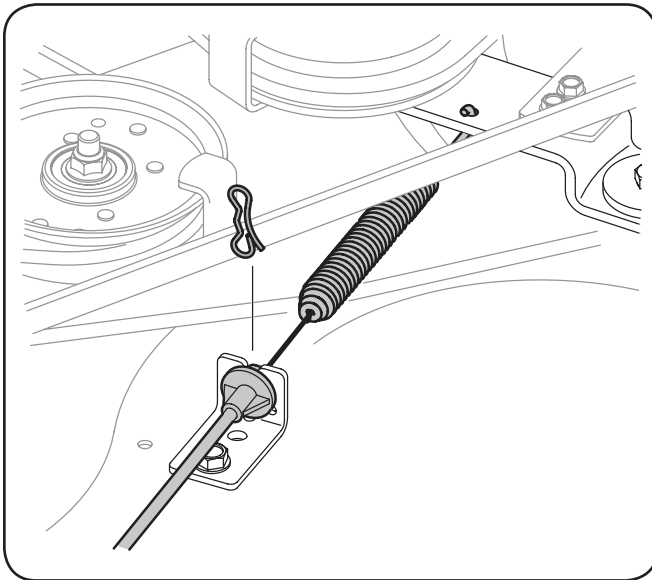

Figure 7-4
9. Carefully remove the deck engage cable from the rear of the cutting deck by removing the bow-tie cotter clip that secures it. Remove the spring from the deck idler bracket. See Figure 7-4.
- c. Reattach the deck engage cable. See Figure 7-4.